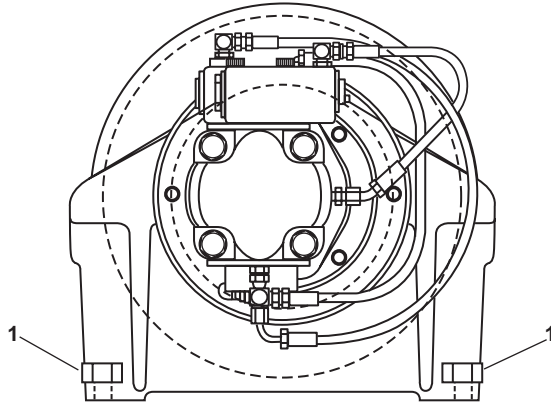

Figure 3. Winch Mounting Bolts
1. Torque all winch mounting bolts (figure 3, item 1) to 135 lb-ft (183 Nm).